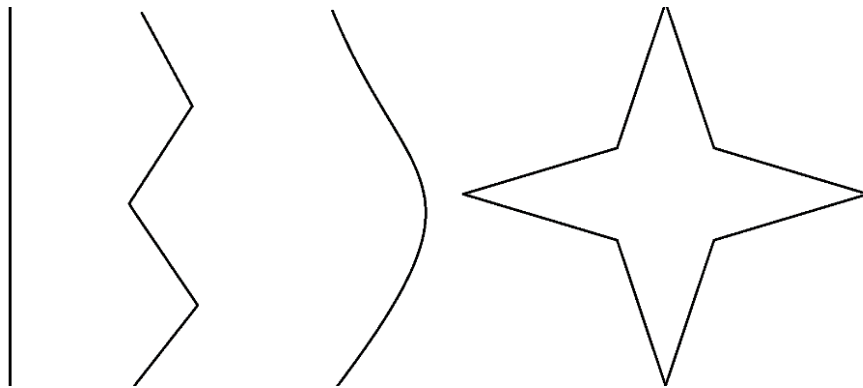

Fig. 7. Setup for cut pieces of paper
1. Prepare four pieces of A4 paper and draw each of the lines in Fig. 7 on each paper (straight line, polyline, curve and shape line). The shapes shown in Figure 7 should be drawn to fully utilize the A4 paper size